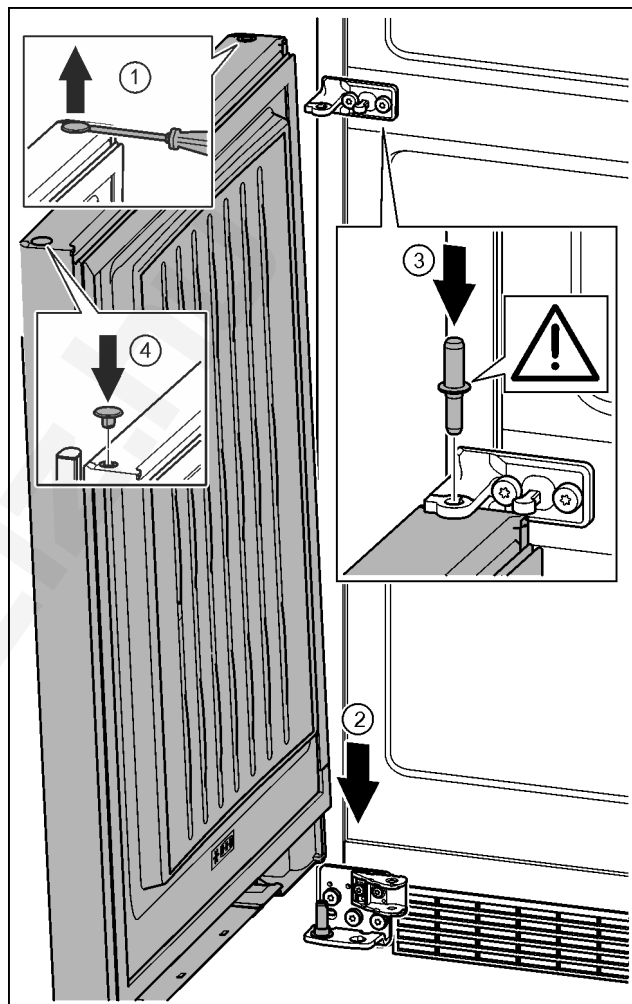

Fig. 39
- Carefully lift up the plugs with a slotted screwdriver and remove them. Fig. 39 (1)
- Position the door from above onto the lower bearing pins. Fig. 39 (2)
- Insert the centre bearing pin through the centre bearing bracket into the lower door. Make sure that the catch mechanism is pointing to the rear. Fig. 39 (3)
- Insert the plugs again on the other side of the door. Fig. 39 (4)